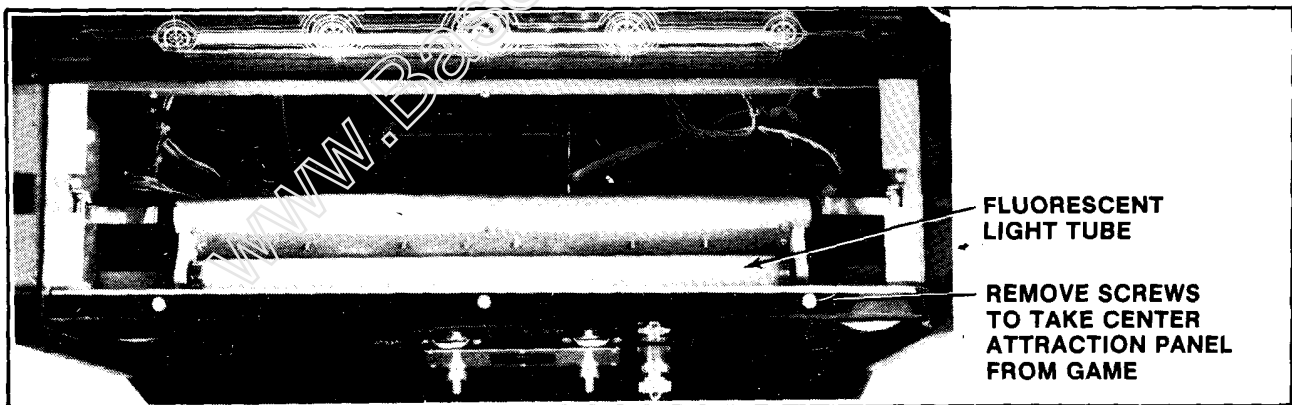

Figure 2-46 Opening Center Attraction Panel - Upright
- ☐ Remove the control panel as described previously. This exposes the attraction panel fluorescent light tube and its mounting bracket assembly. See Figure 2-46.
- ☐ Replacement of the fluorescent tube mounting bracket assembly. See Figure 2-46.
- ☐ Remove the screws from top support bracket and the screws along its base which secure the mounting bracket and the center attraction panel assembly to the cabinet as shown in Figure 2-46.